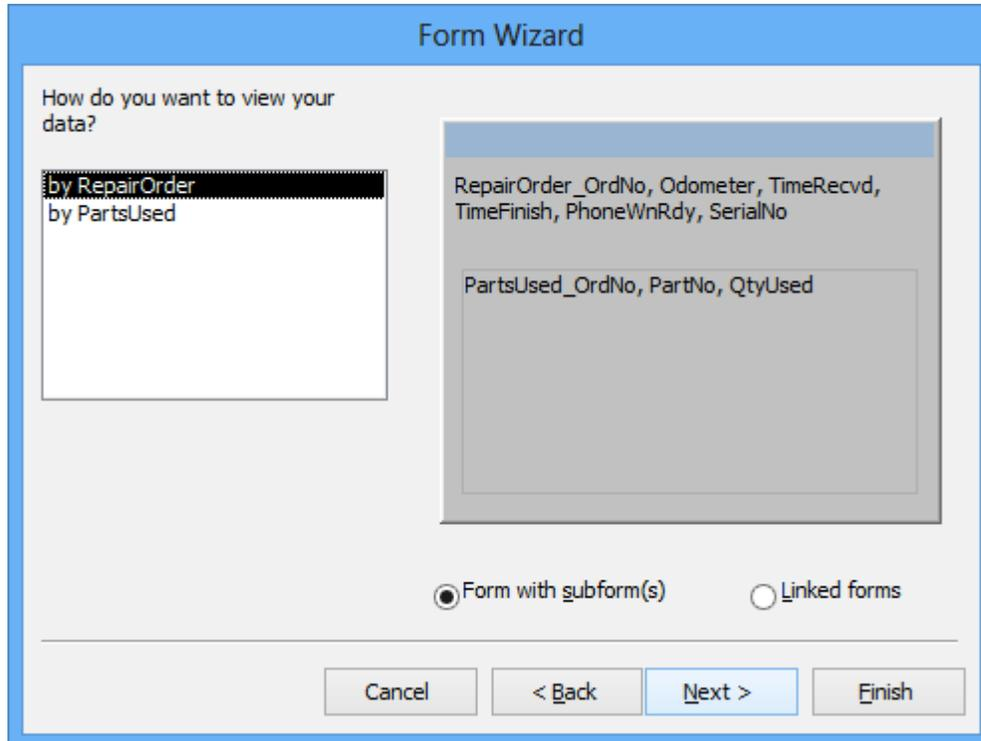

Figure 4: Viewing Options Window of the Form Wizard
- Select Viewing Option: The next window asks how you want to view the data. Select “by RepairOrder” because you want *RepairOrder* data to appear in the main form. The option button “Form with subform(s)” should be selected as shown in Figure 4. Select it if it is not selected and click **Next >**.